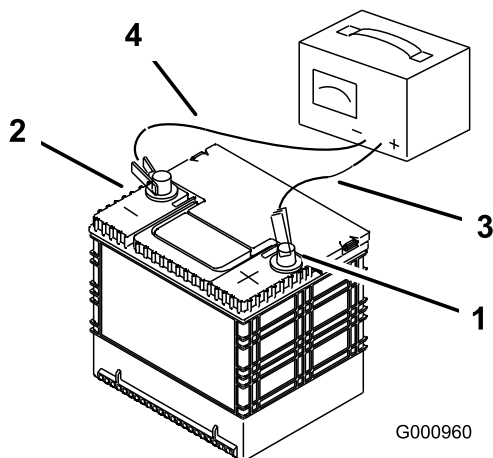

Figure 29
2. When the battery is fully charged, unplug the charger from the electrical outlet, and disconnect the charger leads from the battery posts (Figure 29).